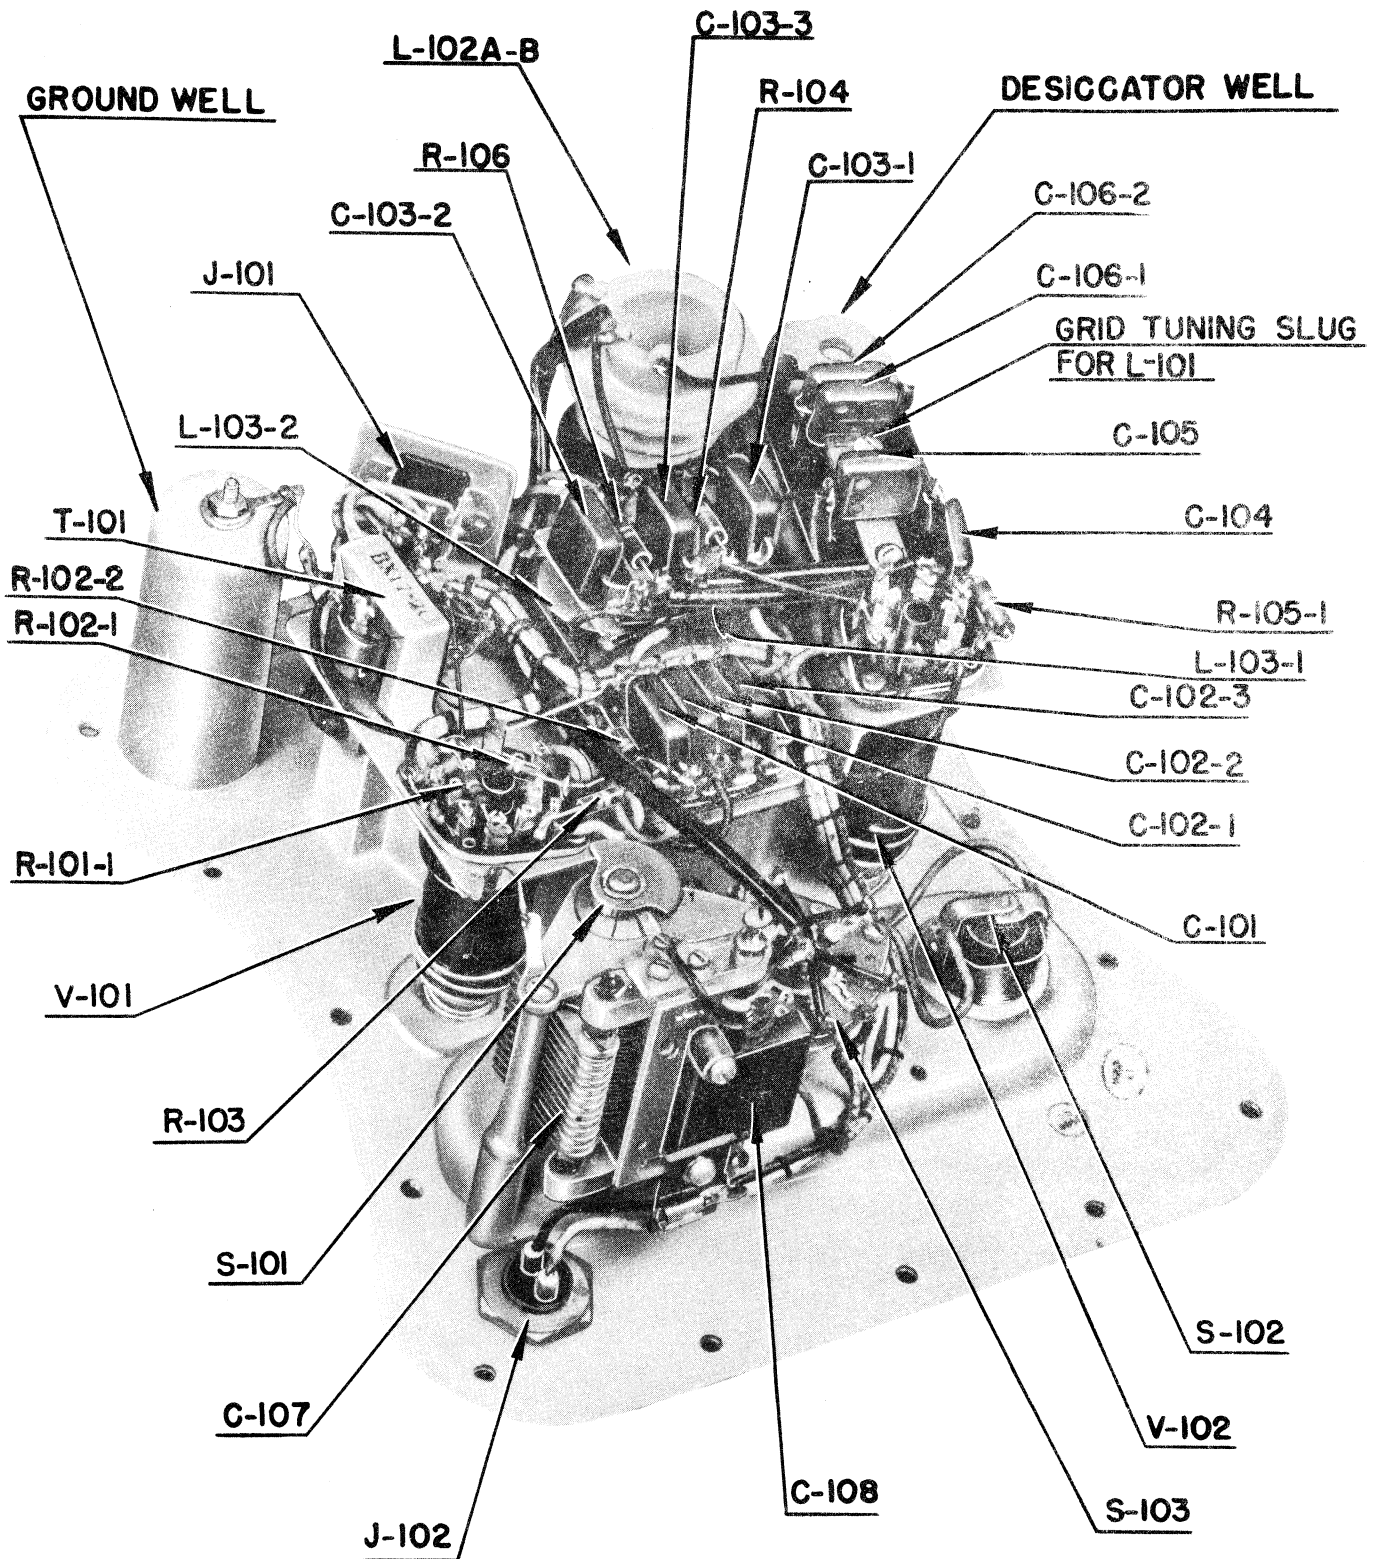

Figure 23—Radio Transmitter BC-778-B, BC-778-C, BC-778-D or BC-778-E, Parts Layout of Cover
*c.* Condenser 7 (see fig. 23) tunes the circuit to about 1000 cycles with the help of other circuit constants.